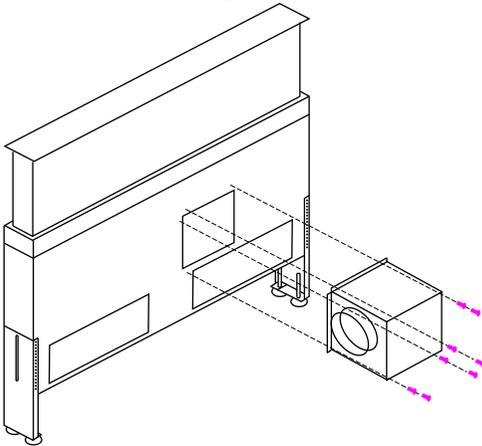

Fig 9
1. When using the AMD motor remove the knock out using a hammer and fix the motor to either the front or back (Fig 9).